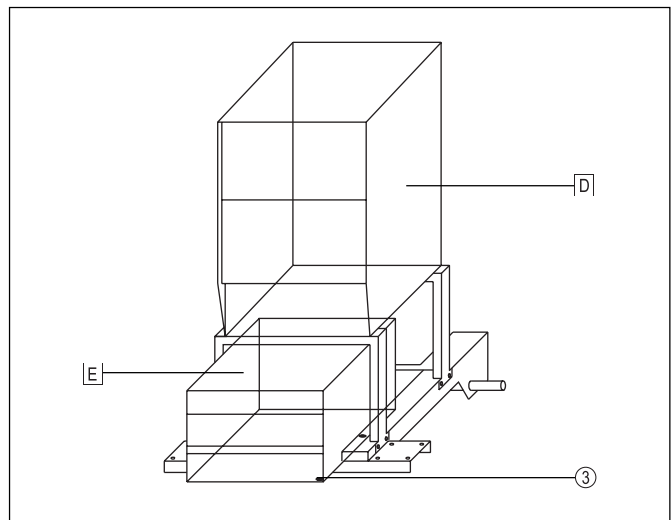

Fig. 15 Assembling the power source
- As you can see in Fig. 15, the unit only needs to be fastened at Point ③, using an M8x16 steel screw (inserted from below), with washer and retaining ring.